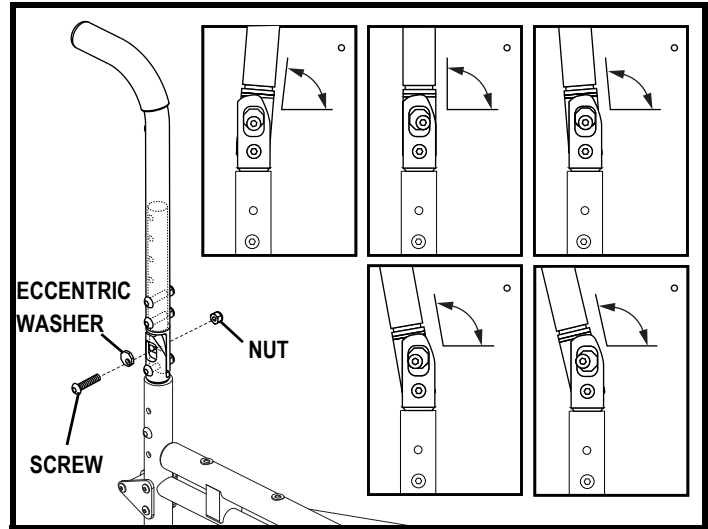

Figure 21. Seatback Angle Adjustment
Your wheelchair may be equipped with angle adjustable back canes that allow you to adjust the seatback to one of five different angles. The angle adjustment range is 85°-105° in 5° increments. See **figure 21**.
1. Remove the top screw and nut from the back cane and loosen the lower screw. See **figure 21**.
2. Rotate the eccentric washer to the appropriate position that represents the desired angle. See **figure 21**.